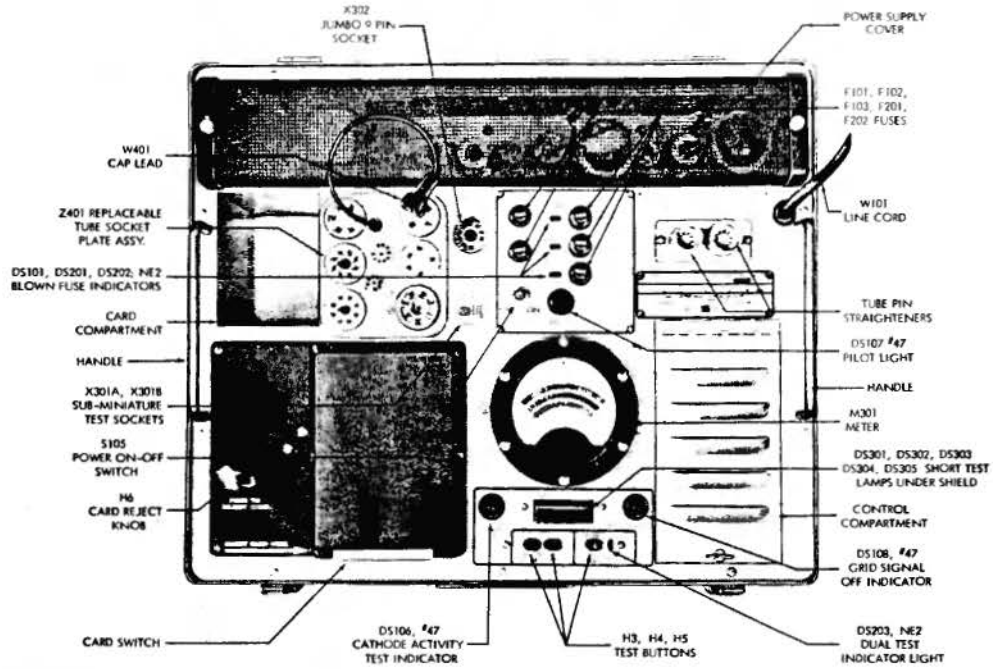

Figure 2. Identification of Controls and Components - AN/USM-118A
2.04 The front panel is shown in Figure 2. The largest feature is the card switch which has a receptacle for receiving the program cards. When a pre-punched card is fully inserted into the switch it actuates a micro-switch which in turn actuates a solenoid to move the card switch contacts to complete the circuit. When the card switch actuates, the large knob at the left of it pops up. This PUSH TO REJECT CARD knob must be pressed to open the switch contacts and release the card. The card switch actuates only when a card is in the proper position and operates on the principle that absence of a hole in the card makes a contact.